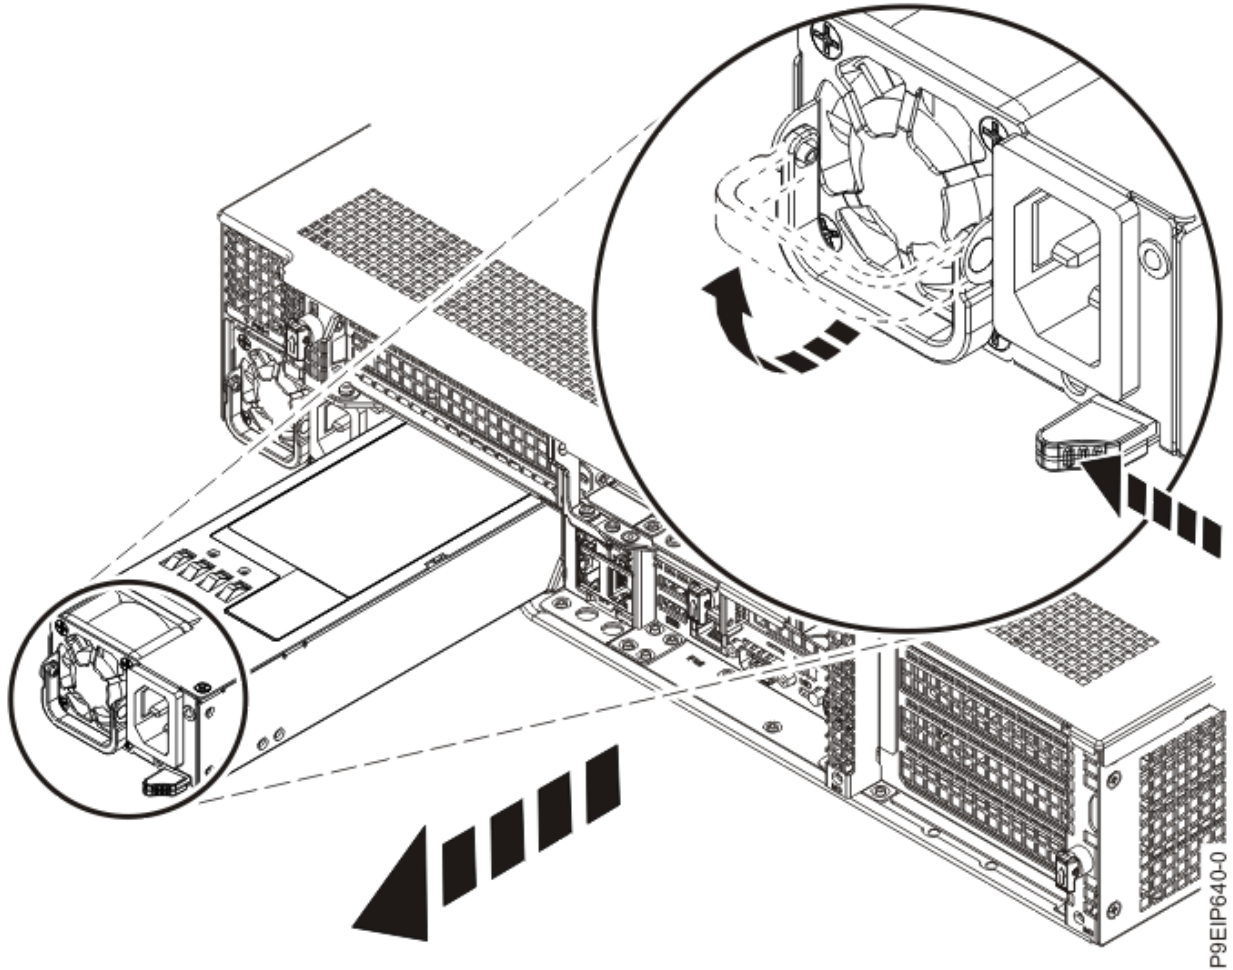

Figure 33. Removing a power supply from the system
- a) To unseat the power supply from its position in the system, push the locking-tab to the left as shown in Figure 33 on page 35.